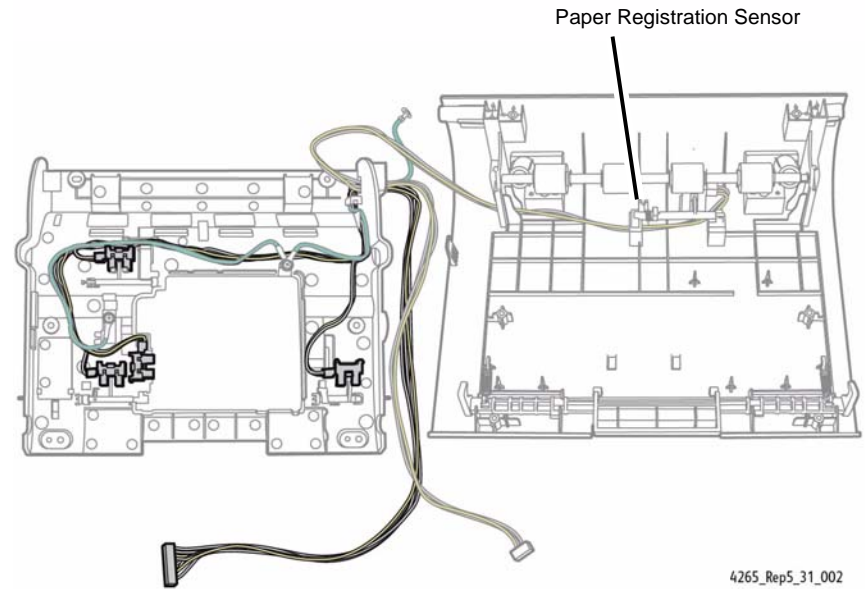

Figure 3 DADF Paper Registration Sensor
4. Locate and remove the particular sensor (Table 1) (Figure 2) (Figure 3).